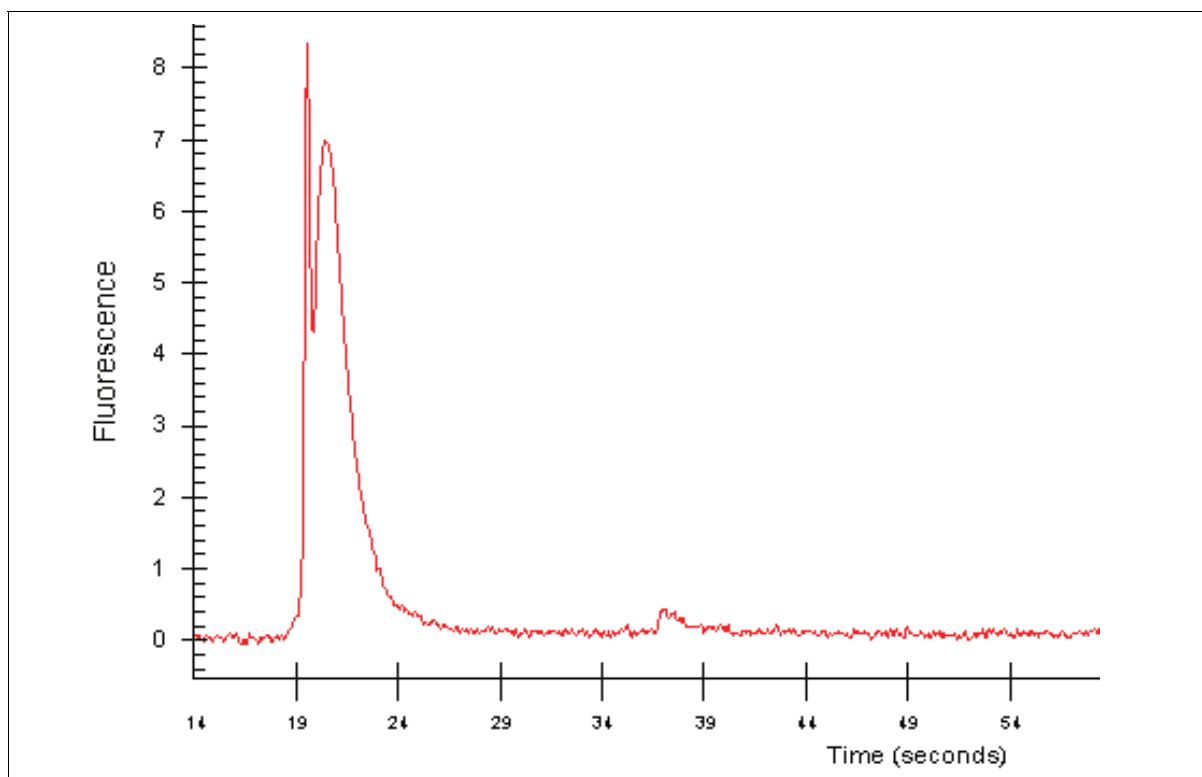

Figure 3.1 Bioanalyzer profile of Fragmented Single-Stranded DNA from Human Brain
4. Flick-mix, spin down the tubes, and transfer 45 µL of the sample to a new tube. The remainder of the sample can be used for size analysis using a Bioanalyzer. Please see the Reagent Kit Guide that comes with the RNA 6000 Nano LabChip Kit for detailed instructions. The range in peak size of the fragmented samples should be approximately 40-70 bp. See Figure 3.1 as an example of typical results on fragmented samples.